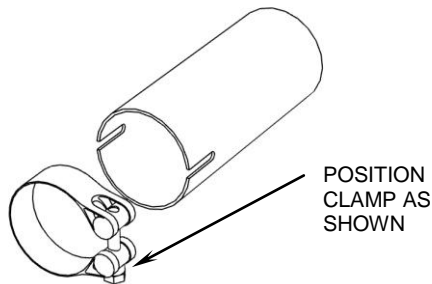

FIGURE 3
6. Place the supplied 27-61msc clamp onto the lower muffler inlet then slide the rear headpipe / muffler assembly onto the front headpipe and into the rear exhaust port. Bolt rear headpipe onto the rear cylinder using the stock nuts from Step 1 but **DO NOT TIGHTEN**. See Figure 3 for clamp orientation.
10. To install the front heatshield, first slide the rear portion of the heatshield over the muffler, continue to slowly slide it forward pushing the front of the shield gently into place between the frame and motor (Hint: Spread the hose clamps apart slightly to make it easier to slide them over the muffler assembly and headpipes). Make sure the muffler clamp doesn't interfere with the heatshields and is aligned as shown in Figure 3. Snug the heatshield clamps but **DO NOT TIGHTEN**.